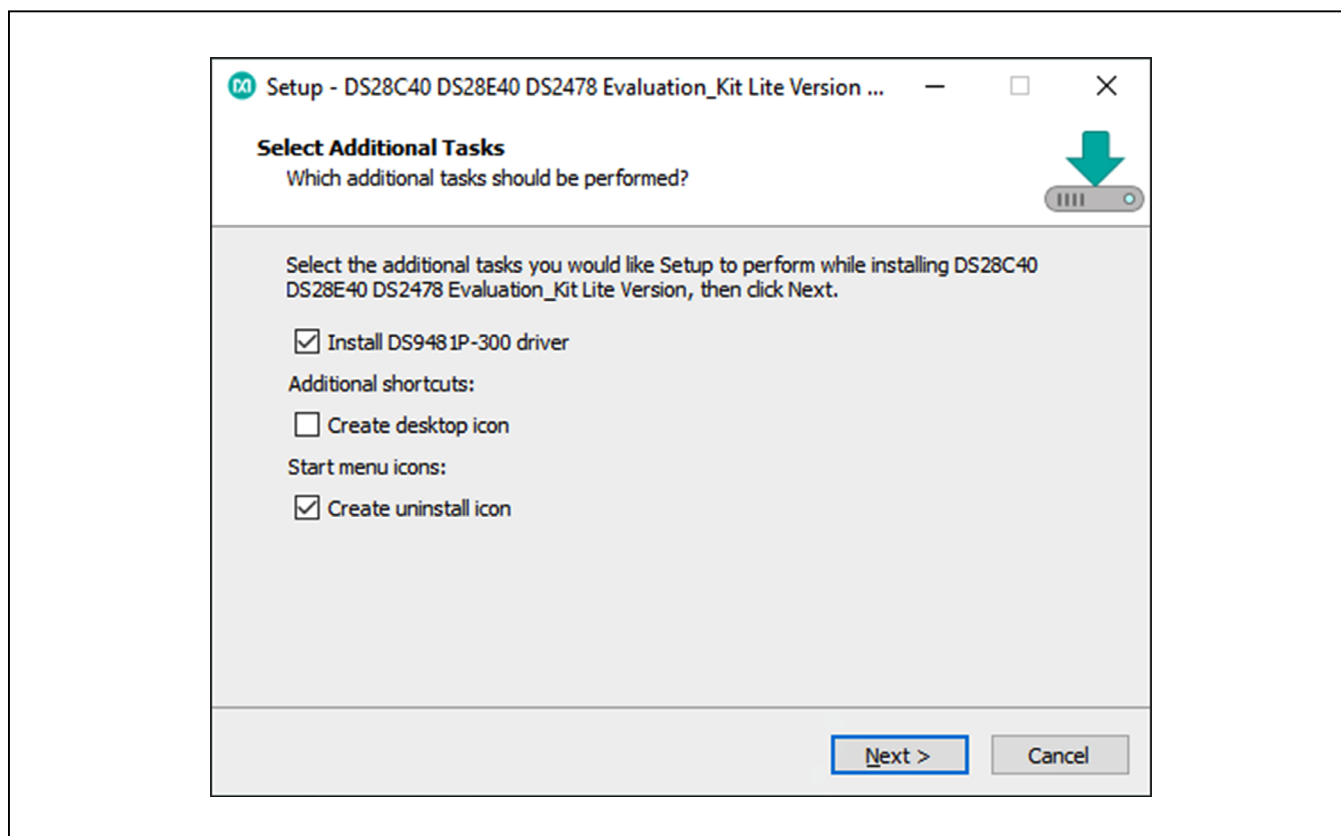

Figure 2. DS2478 Setup Wizard
3) The setup wizard opens, click **Next** as shown in Figure 2.